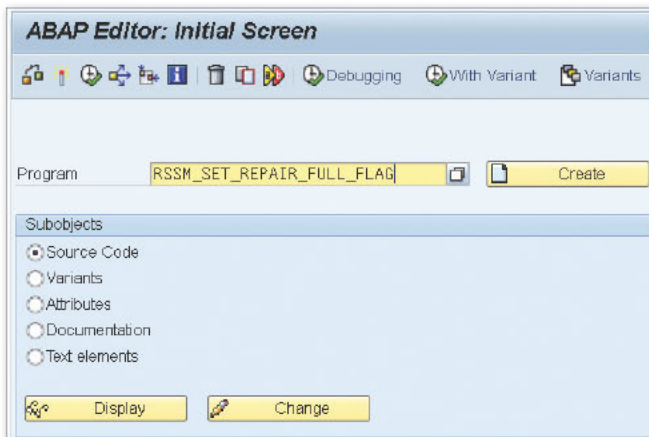

Figure 3 Transaction SE38 Screen with the Standard SAP Program
1. Go to Transaction SE38/Transaction SE80, enter the program name `RSSM_SET_REPAIR_FULL_FLAG`, and click EXECUTE (see Figure 3).